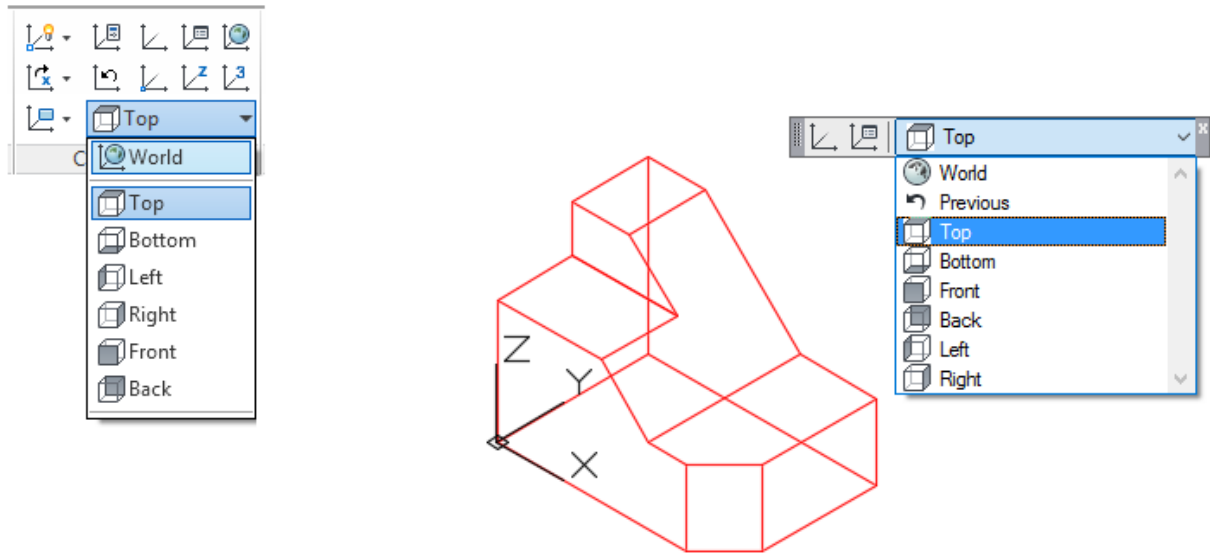

Figure Step 11
Step 11 Click Top from the pull-down list. The UCS icon will move onto the top plane of the model. In this case, it locates itself on the WCS. (Figure Step 11)